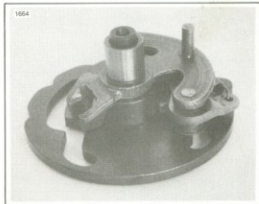

Figure 7-18. Shifter Cam and Pawl Assembly
- See Figure 7-18. Install the pawl assembly on the shifter cam. Make sure pawls engage on shifter cam gear teeth.